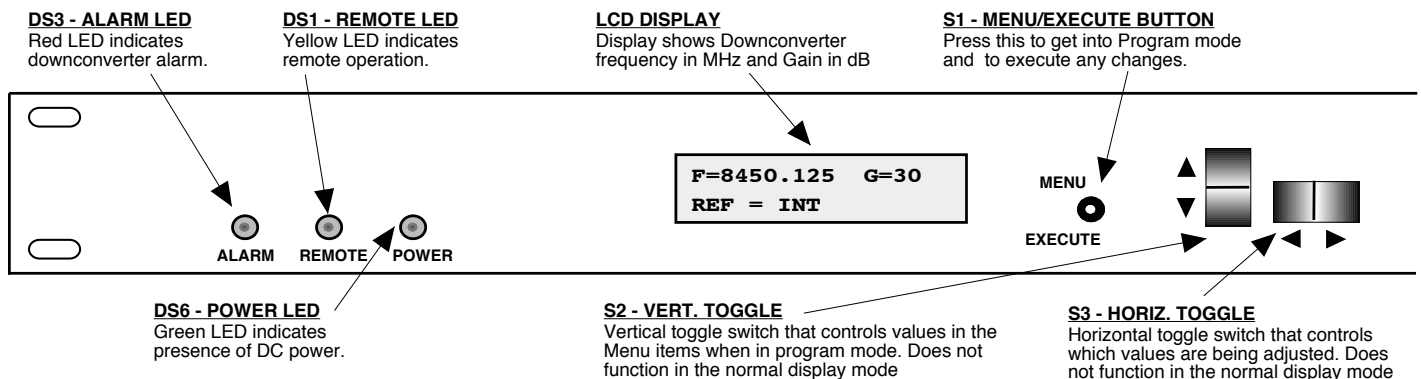

FIGURE 2.3 2016-8287 Front Panel Controls and Indicators
Figure 2.3 shows the front panel controls and indicators.
6. Be sure DS6 (green, DC Power) is on and DS3 (red, Alarm) is off (Figure 2.3).
Alarm indications appear on the LEDs (see figure 2.3).